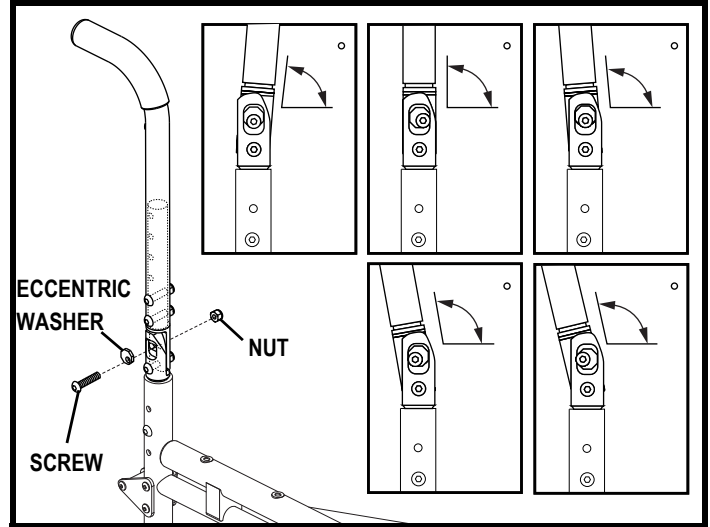

Figure 20. Seatback Angle Adjustment
Your wheelchair may be equipped with angle adjustable back canes that allow you to adjust the seatback to one of five different angles. The angle adjustment range is 85°-105° in 5° increments. See figure 20.
1. Remove the top screw and nut from the back cane and loosen the lower screw. See figure 20.
2. Rotate the eccentric washer to the appropriate position that represents the desired angle. See figure 20.